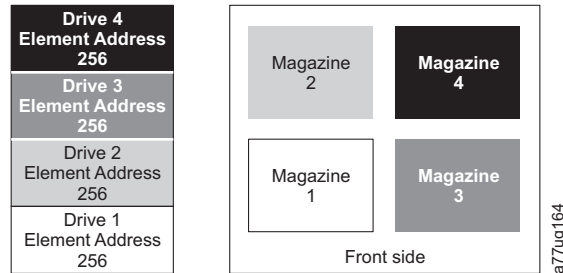

Figure 17. Configuration of a four - partition system
- Logical Library 1: Slot1 through 23 4096 (0x1000) through 4118 (0x1016) as shown in Figure 17 on page 29
When configured with four logical partitions, the Element Address assignments will be as follows: DTE assignments will be as shown in Figure 17 on page 29.